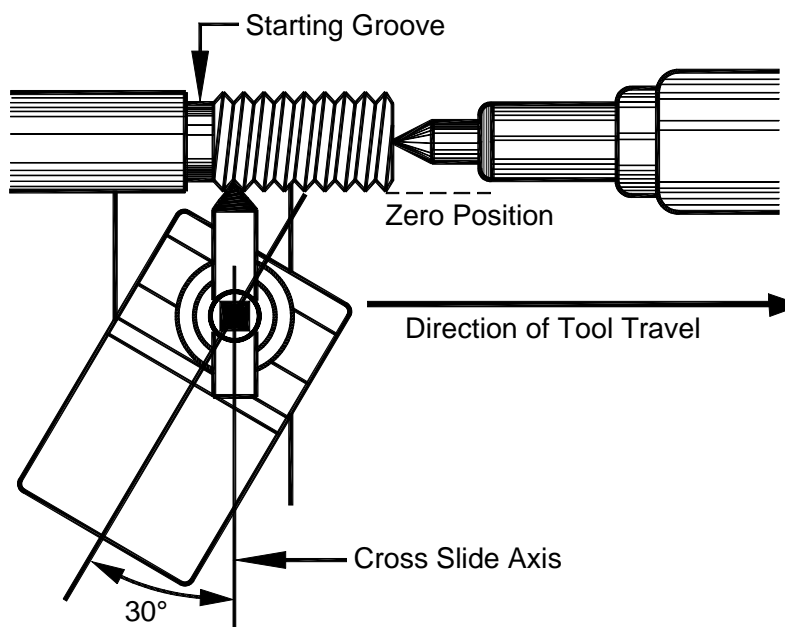

Figure 7-142. Setup for cutting left-hand threads.
5. It is preferable to have a starting groove, or gap, on the left side of the threads in which to begin the threading cuts, Figure 7-142.